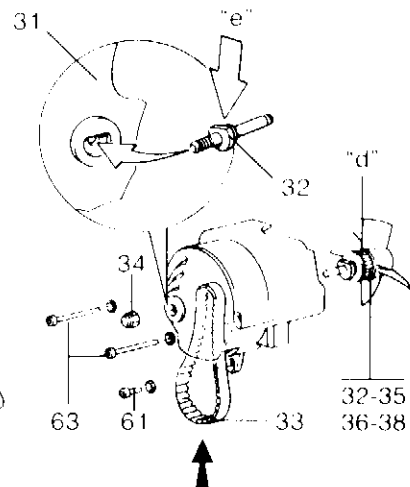
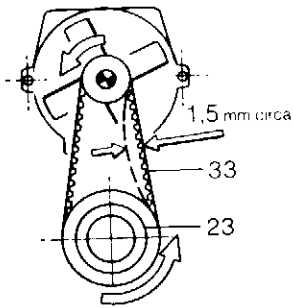

Fig. 12
Fig. 13
Replacement of the cooling fan belt (Figs. 12 & 13)
- Remove the screws (63) and (61) and then the fan/fan belt cowling unit and dismantle the fan shaft/fan (32 - 38) after undoing the nut (34) (Fig. 12).
- remove the worn fan belt and substitute it with a new one which should be inserted from the bottom of the cowling (31).
- reassemble the fan/fan belt cowling unit taking care to position the timing belt on the fan's timing pulley (d) and insert the threaded portion of the fan shaft (32) in accordance with the diagram "e" - which fits into its location inside the fan cowling (31). Then tighten the nut (34) firmly.
- replace the fan and cowling unit on to the engine after having "keyed" the timing belt onto the geared timing pulley (23) (Fig. 13). First insert the screw (61) without tightening it completely and then attach the screws (63) in the same way.
- tighten the timing belt by moving the cowling unit, but not too much. Leave it so that the sides of the timing belt can flex by about 1.5 mm (Fig. 13). Then tighten the screws (61 & 63).